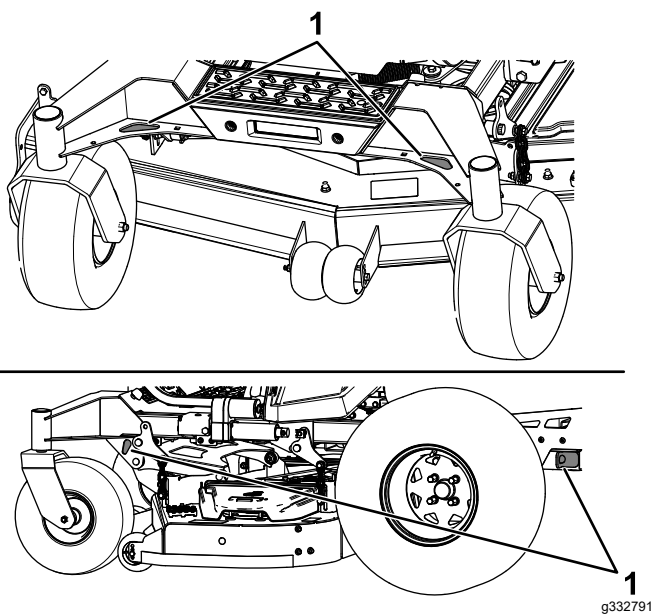

**Figure 37**
6. Tie down the machine near the front caster wheels and the rear frame with straps, chains, cable, or ropes (Figure 37). Refer to local regulations for tie-down requirements.